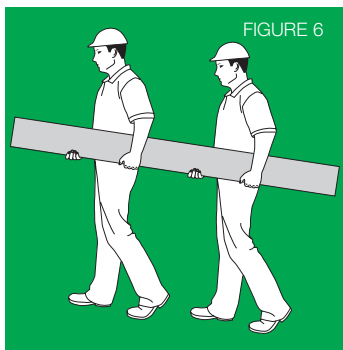

FIGURE 6
- If two people are carrying the plank, hold it near each end and on edge (figure 6)